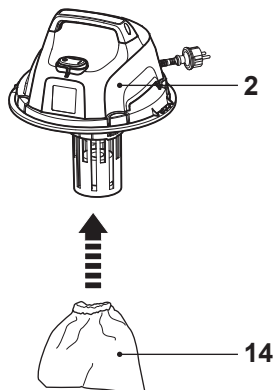

Fig. 7
- > Assemble the dust filter (14) onto the motor unit (2) (Fig. 7). Ensure the filter sits properly in position.